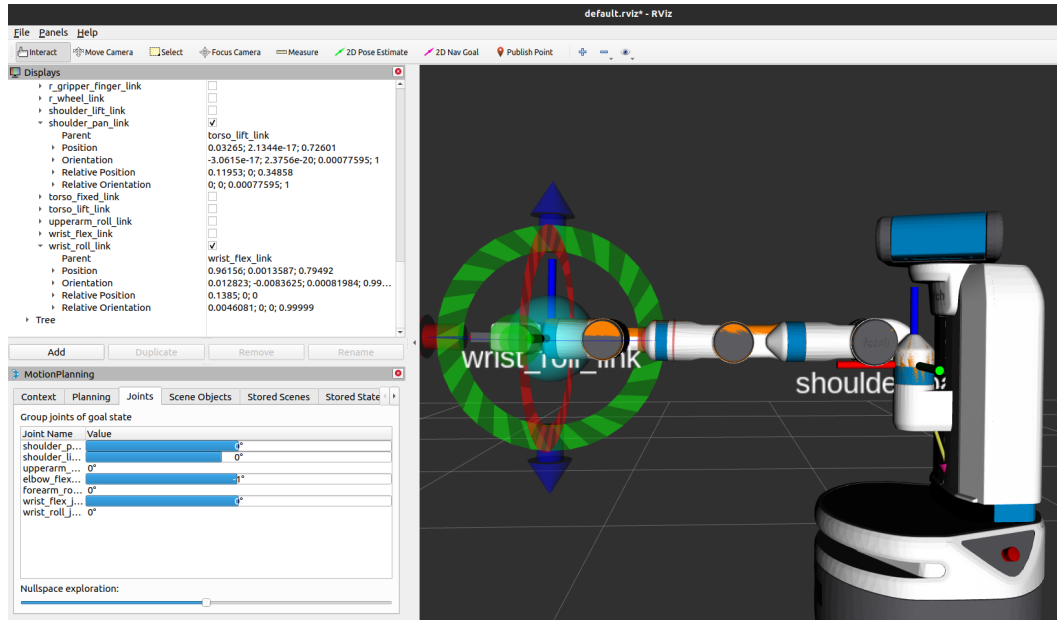

Figure 8: Setting joint angles to zero.
**Answer:** Figure 8 shows an attempt to set all the joint angles to zero. However, this is the best it can be done. It was found that some joints couldn't be controlled in the Joints tab, while interactive marker couldn't independently control single joints; setting current non-zero angles to zero would also impact on other angles.